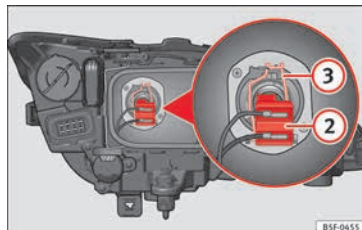

Fig. 104 Dipped beam headlights.
- Remove connector » **Fig. 104** ② from the bulb.
- Unclip the retainer spring » **Fig. 104** ③ pressing inwards to the right.